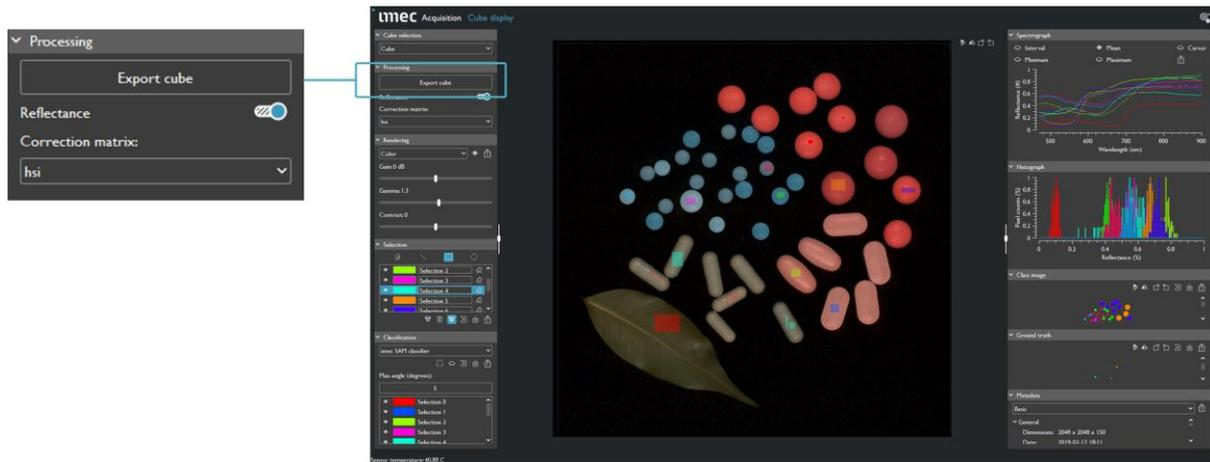

Figure 87 “Export Cube” selection button in the “Cube display” GUI.
- Step 1** - Click “Export cube” button on the left-hand side panel (see Figure 87).